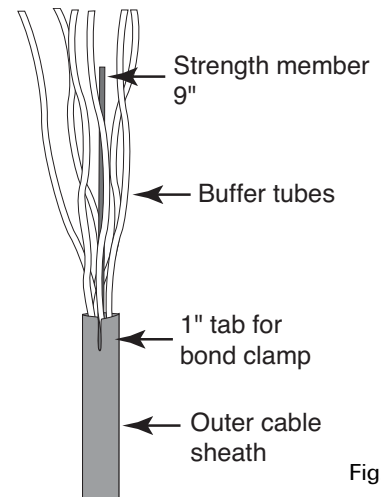

Fig. 1
2. Cut central member 9" from the ring cut. (Figure 1)
4. If a shield is present in the cable, tab the cable 1" from the ring cut. Crimp the alligator bond clamp to the tab in the sheath. (Figure 1)